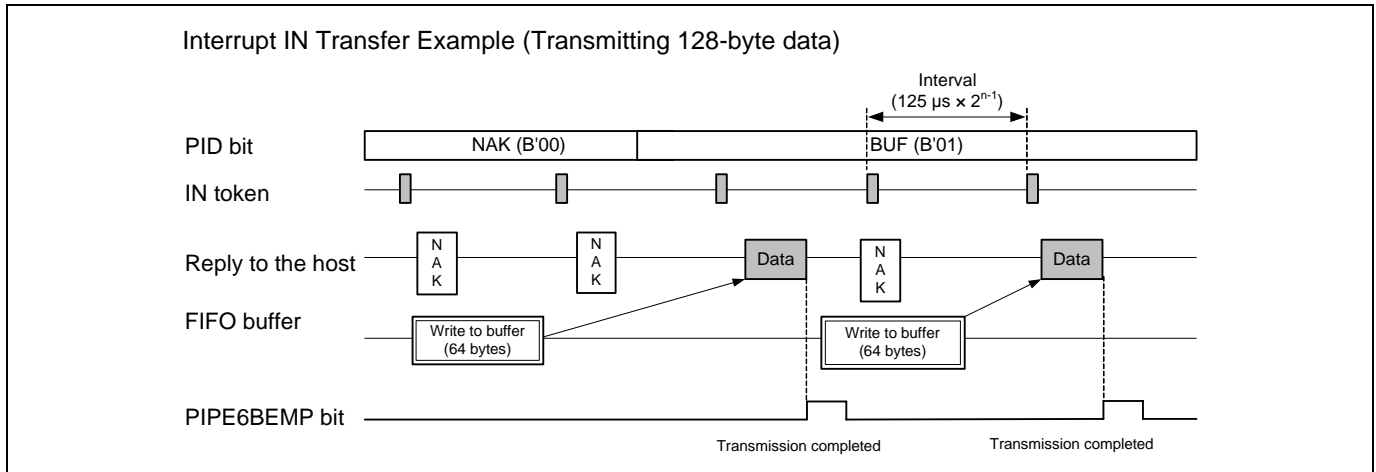

Figure 7 Interrupt IN Transfer Example
Table 1 lists the setting example of interrupt IN transfer using pipe 6. Figure 7 shows the operation example using the setting listed in Table 1. As double buffering and continuous transfer mode cannot be used in this example, use BEMP interrupt to write transactions one by one to FIFO buffer memory. For details, refer to (1) to (6) described in following pages.